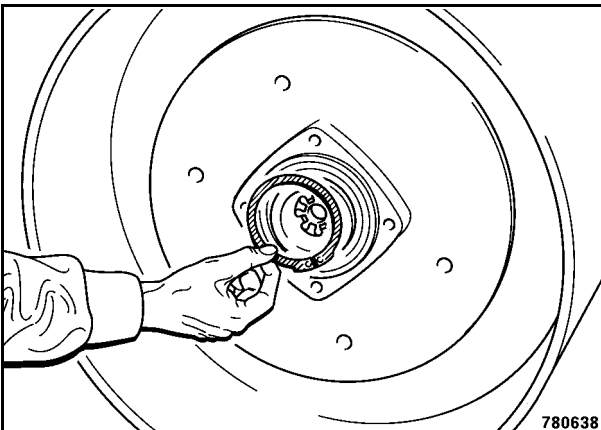

Fig. 16
22. Snap the circlip into the groove in the bearing housing (Fig. 16).